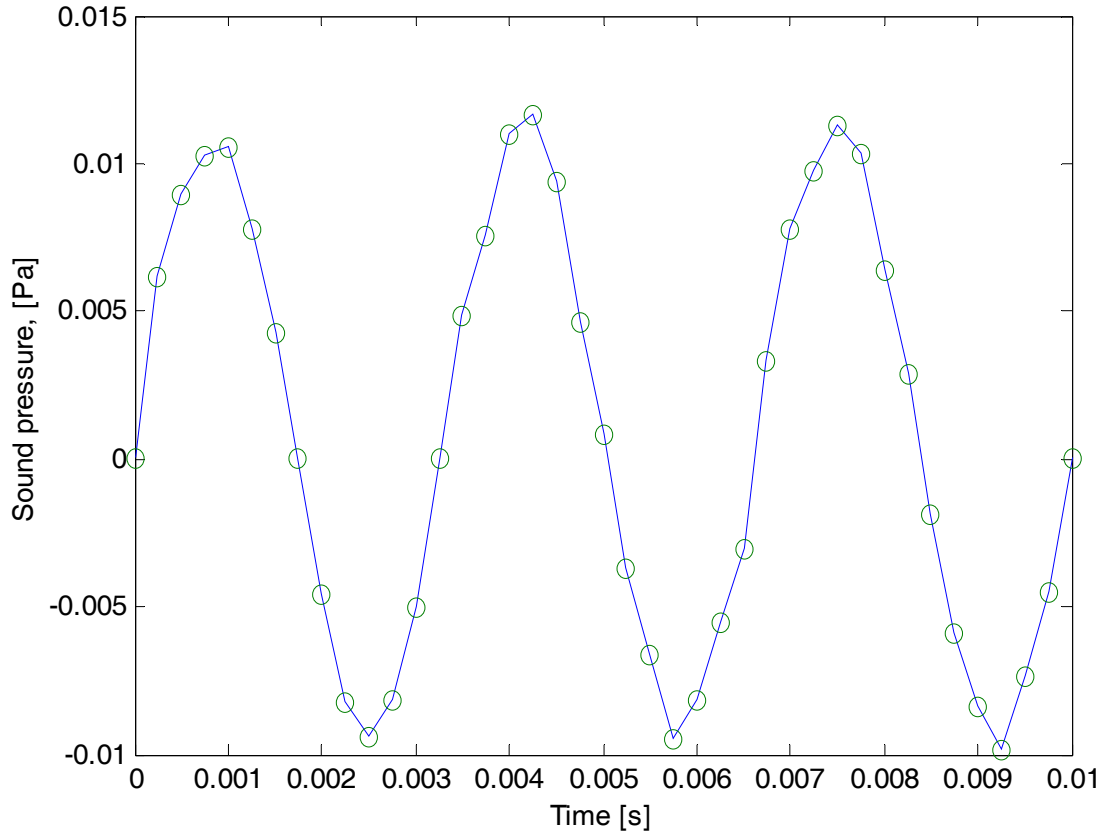

Figure 1 In a digital measurement instrument the continuous signal is sampled at discrete times with equidistant time intervals Δt .
Modern digital measurement instruments measures or samples, the signal at discrete equidistant times t_n , $n = 1, 2, 3, \dots, N$, see figure 1. The integral in definition (2), i.e. the area of the surface between the squared sound pressure curve and the time axis, is then estimated with the sum,